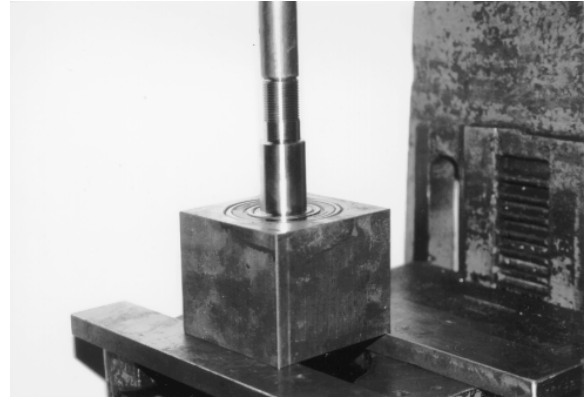
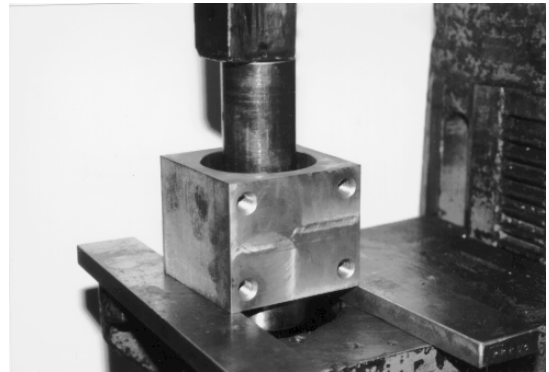

FIGURE 42
FIGURE 43
8) Position the arbor shaft assembly in a suitable arbor press with the snap ring shoulder facing down. Determine that the bearing block face is properly supported. The outside diameter of the bearing must be clear for axial movement. Press the arbor shaft assembly from the bearing block. FIGURE 42. Reposition the assembly and press the remaining bearing from the bearing block. FIGURE 43.